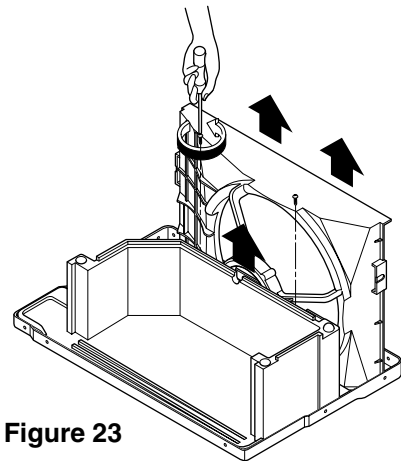

Figure 23
8. Remove 2 screws that secure the shroud to the base pan. (See Figure 23)
9. Lift air guide lower and shroud upward. (See Figure 23)